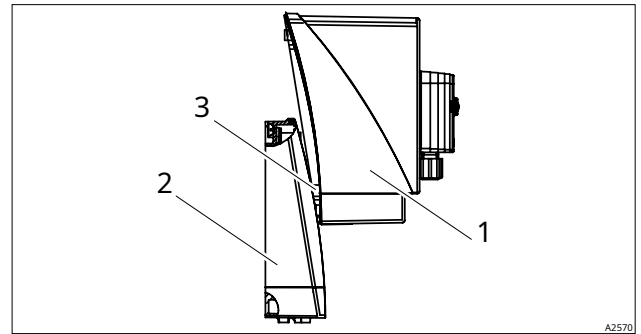

Fig. 8: Parked position
3. ➤ Slide the upper part of the housing with the side flaps up into the recesses in the lower part of the housing (parked position), *Fig. 8*.